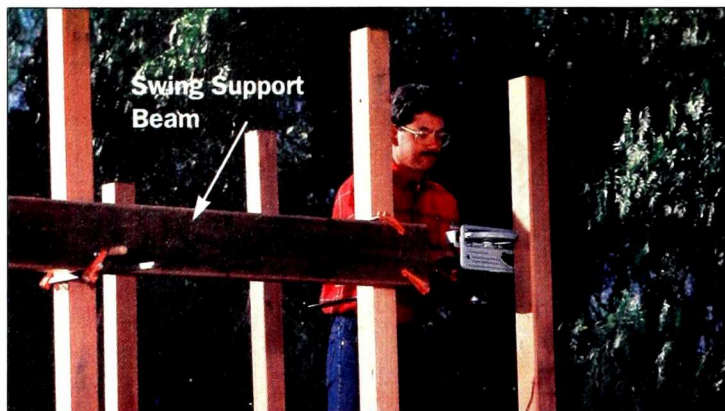

Figure 6: Trim posts to length after the swing support beam is properly positioned. Then bolt the beam to the posts.
- Clamp on the main beam and level it at the proper height above the decking. Now you can mark and trim the posts to their proper length (Figure 6).